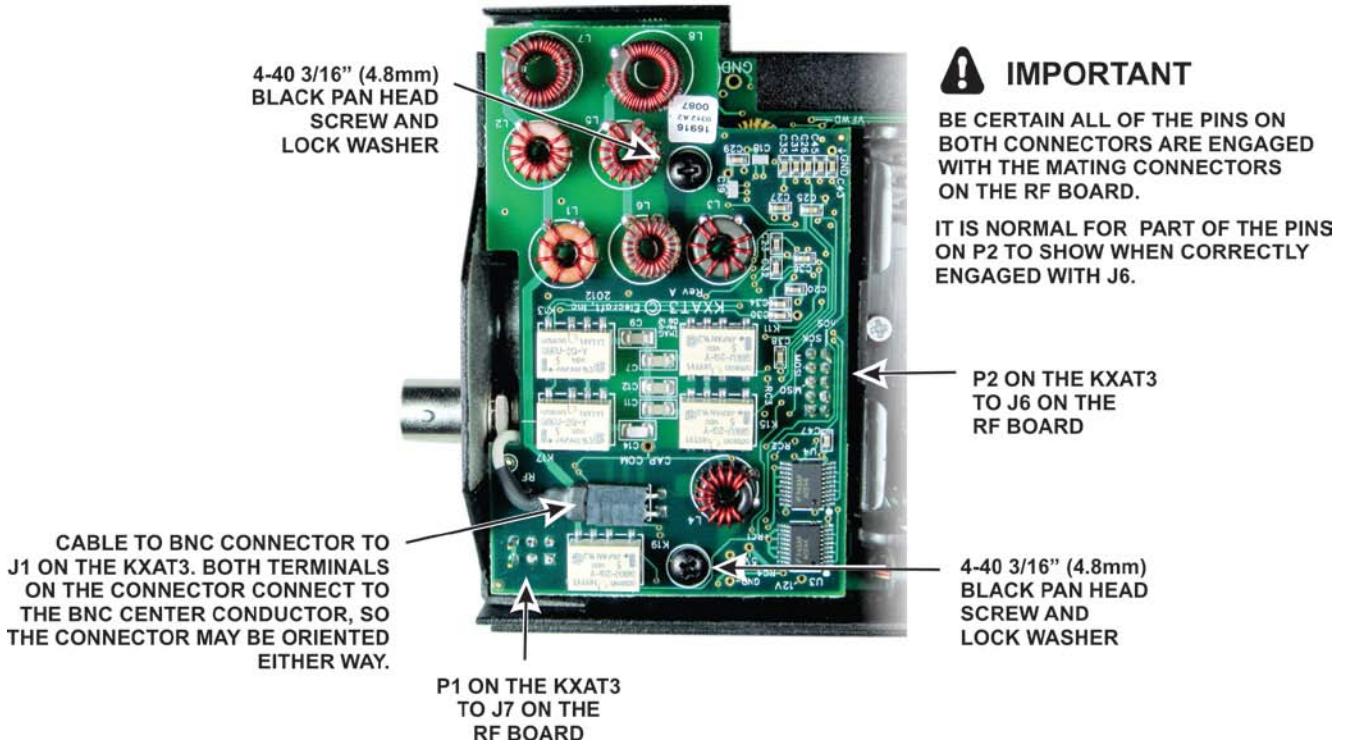

Figure 3. Installing the KXAT3.
Taking ESD precautions remove the KXAT3 board from its packaging and mount it on the KX3 RF board as shown in Figure 3. Be especially careful to ensure that all the pins of both connectors engage with their opposites on the RF Board. You may find it easiest to engage P2 with J6 (near the battery holder) first so you can see the pins more clearly. It is normal for part of the length of the pins on P2 to be visible when the connectors are properly mated.
- Be sure you have plugged the cable to the BNC antenna connector into J1 on the KXAT3 module (see Figure 3).